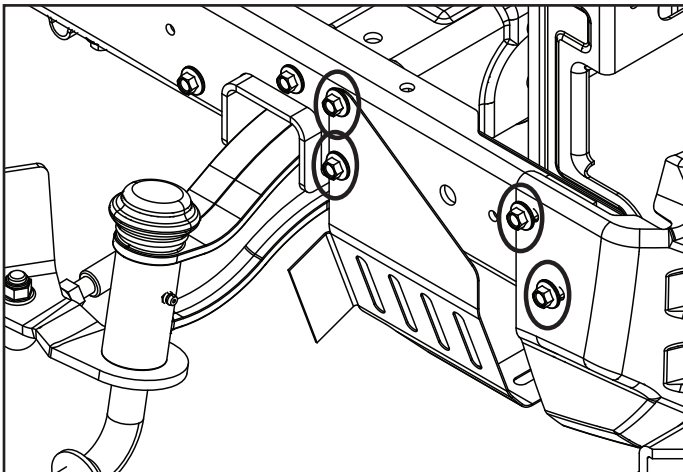

FIGURE 1
STEP 1: Remove any bolts found in the locations circled in figure 1. Save bolts for reinstalling when snow blade hanger brackets are removed from the tractor.
11. If the side plates are removed from the tractor frame, be sure to reassemble any bolts that were removed from the frame. Refer figure 1 on page 4.